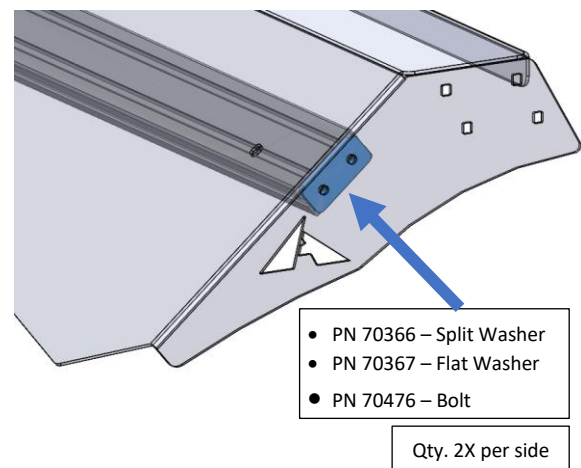

Figure 12: Air Dam Spacer Installation
8. Install air dam spacer between crossbar and air dam inside edge (Figure 12). Use ¼"-20 hardware to fasten together. Repeat for both driver and passenger side.